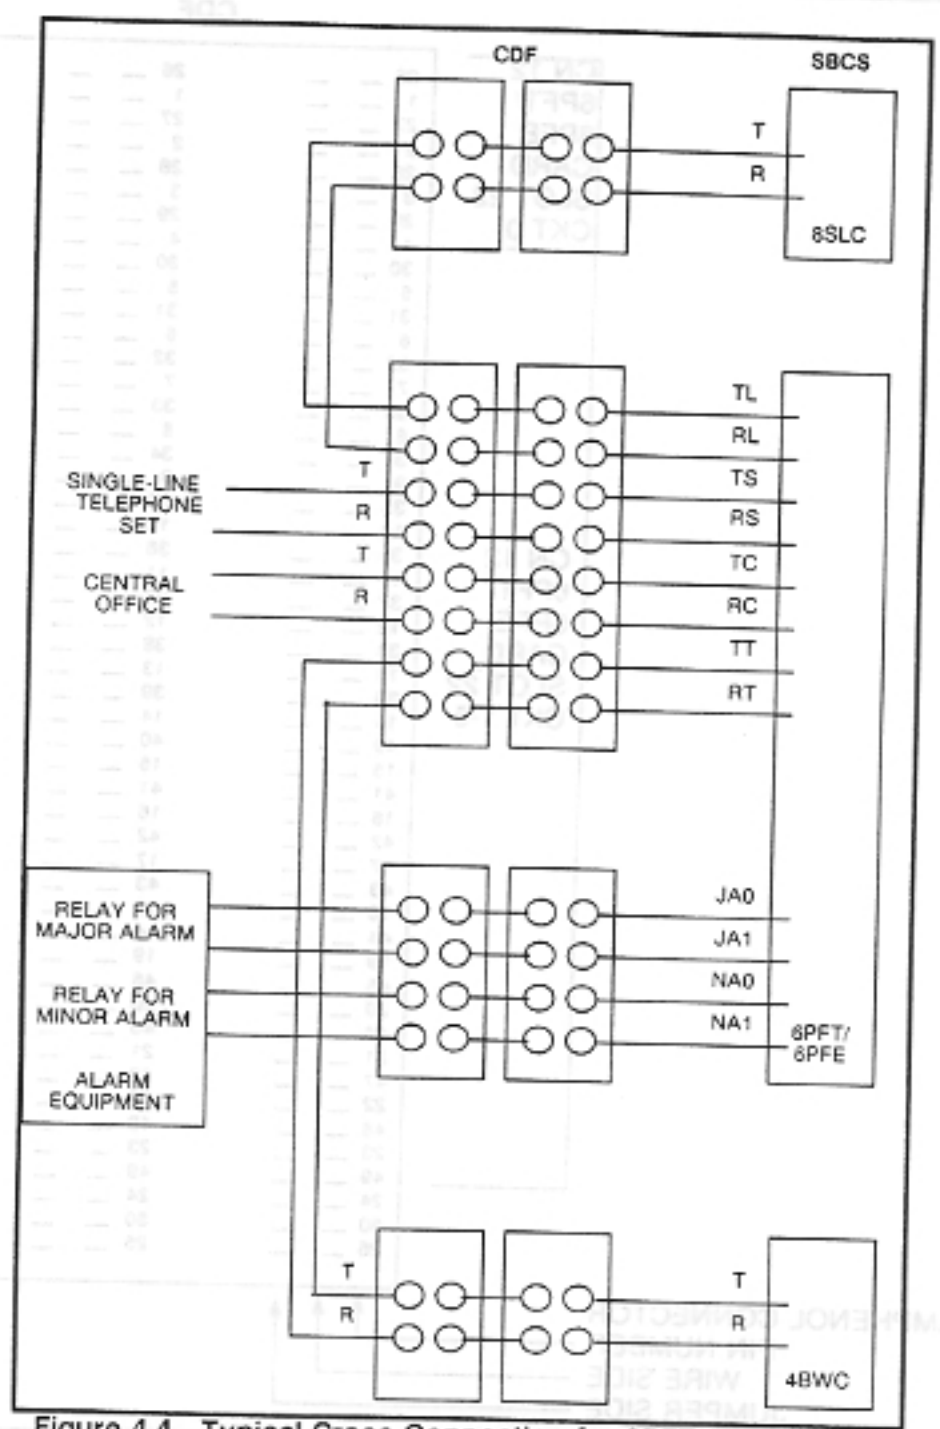
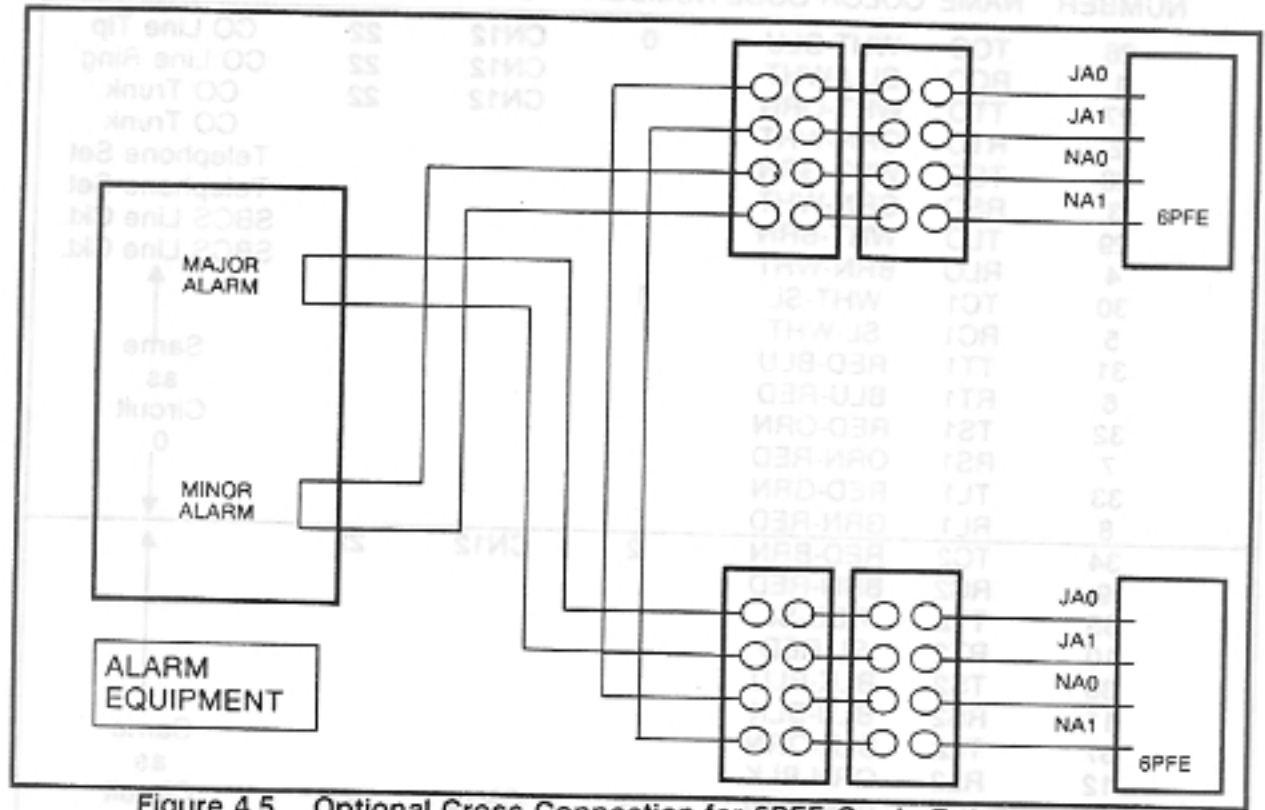

Figure 4.4 Typical Cross Connection for 6PFT/6PFE (Basic System)
Figure 4.5 Optional Cross Connection for 6PFE Cards Between the Basic Cabinet and Expansion Cabinet
7. Cross connect the Telephone Company lines and CDF cable on the CDF. A typical installation is shown in Figure 4.4. Cross-connect information for the six circuits is provided in Table 4.2.
- (b) Cross connect per Figure 4.4 using information in Table 4.2.
- (c) Optional alarm cross connects are shown in Figure 4.4 for the basic system and Figure 4.5 for the expanded system. CDF cable information is provided in Table 4.2.